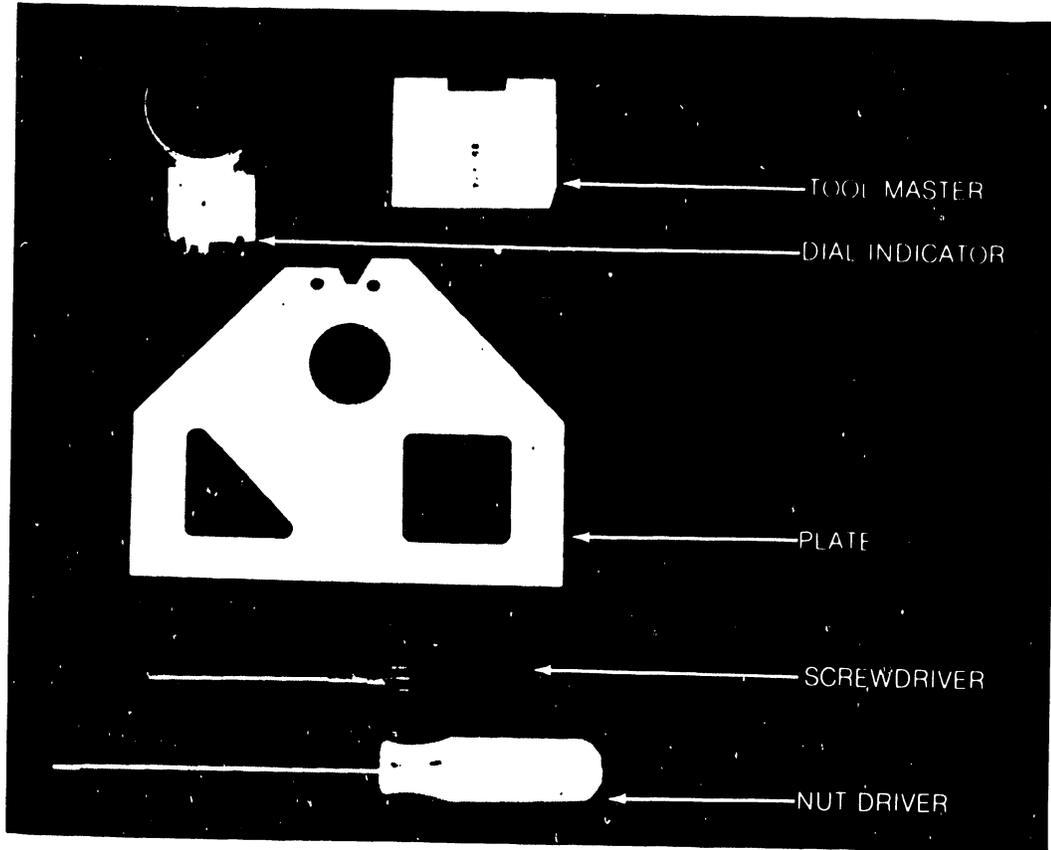

FIGURE 39. HEAD PENETRATION TOOLS
- a. The tools necessary to perform this alignment procedure will consist of penetration gauge tool set, screwdriver and $\frac{1}{4}$ " nut driver (see Figure 39).